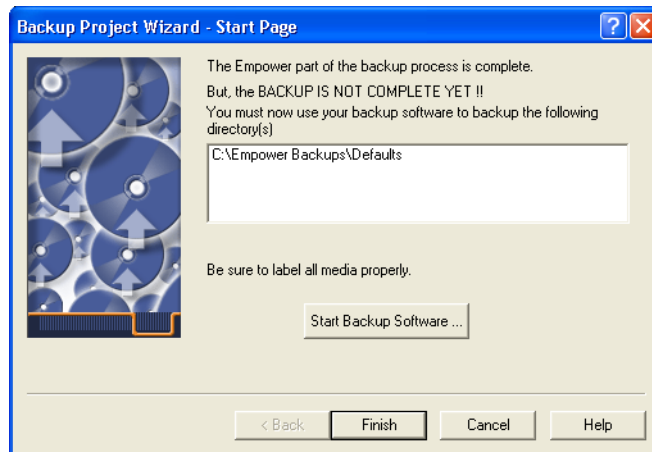

Figure 8-4 Backup Project Wizard–Start Page
- This page displays Oracle messages as the projects are exported. When the export finishes, click **Next**. (This button is available only after the export is complete.) The Start Page appears (Figure 8-4).